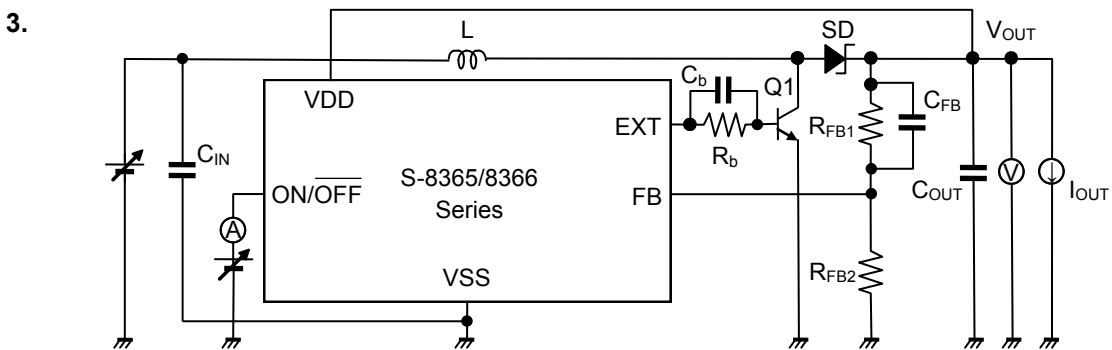

Figure 10
- *2. This is the guaranteed value measured with external parts shown in “**Table 10 External Parts List**” and with test circuits shown in **Figure 10**. The operating start voltage varies largely depending on diode’s forward voltage. Evaluate sufficiently with actual device.
*2. This is the guaranteed value measured with external parts shown in “Table 10 External Parts List” and with test circuits shown in Figure 10. The operating start voltage varies largely depending on diode’s forward voltage. Evaluate sufficiently with actual device.